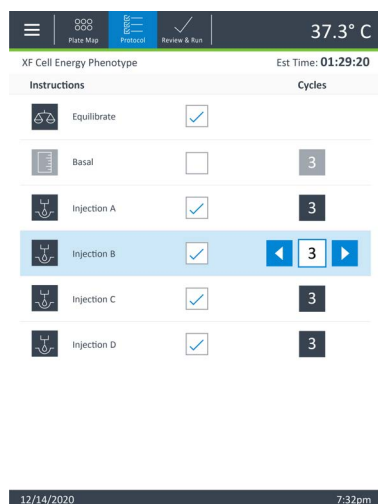

Figure 5. Instrument protocol page.
- 1 Check that all desired steps are selected, check boxes checked (**Figure 5**). Agilent strongly recommends performing equilibration for all cell-based XF assays.
- b Use the arrows to adjust the number of cycles up or down. See **Figure 5**.